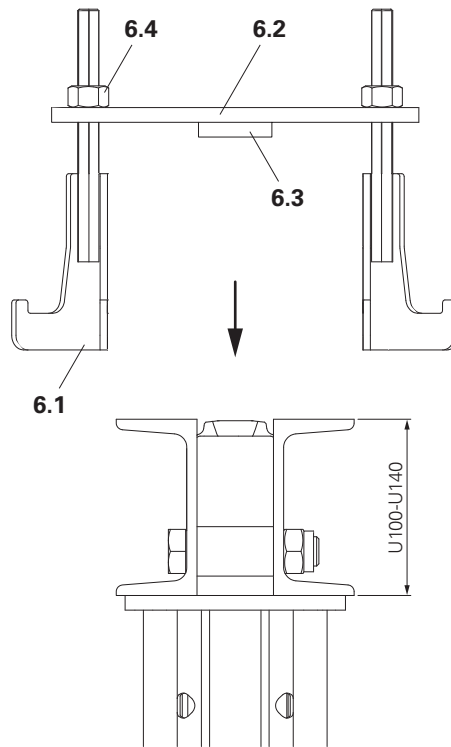

Fig. A6.01a
3. Guide the Strap MP U100-U140 (6) over the Steel Waler SRU from the top. (Fig. A6.01a)